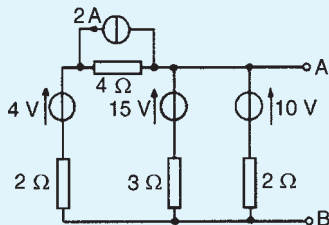

Figure 13.79
4. Determine, by successive conversions between Thévenin and Norton equivalent networks, a Thévenin equivalent circuit for terminals AB of Fig. 13.79. Hence determine the current flowing in a 6Ω resistor connected between A and B.